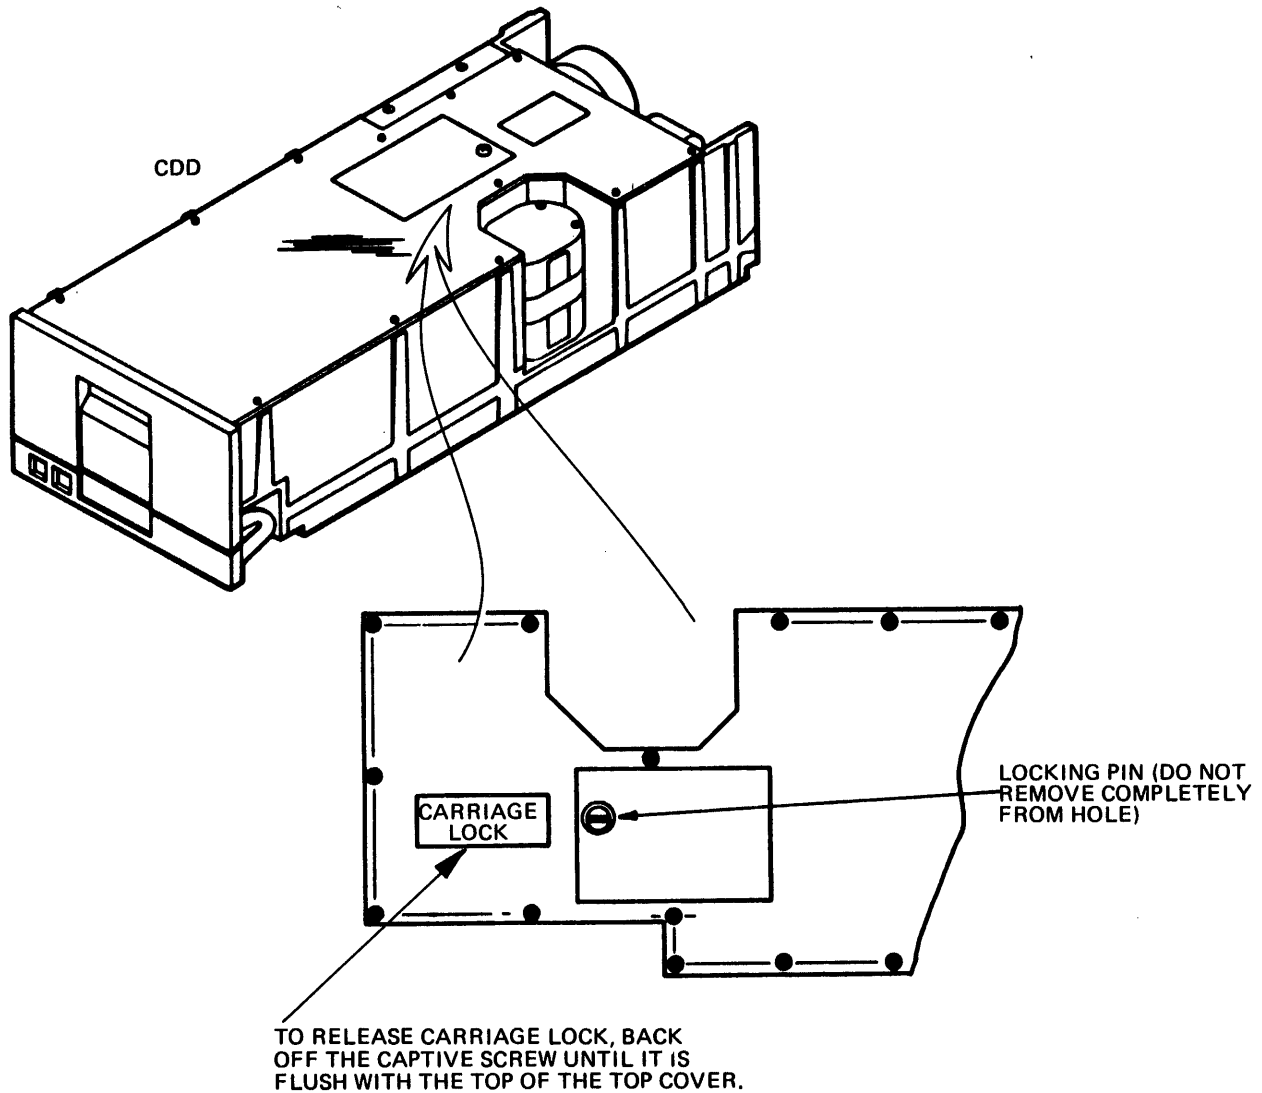

Figure H-7 Cartridge Lock Assembly
4. Unscrew the carriage locking pin (counterclockwise direction) until the head of the screw is flush with the top of the cover (see Figure H-7). Resistance to turning will be felt as the locking pin nears the correct position.
2. THE CARRIAGE IS TO BE LOCKED DURING SHIPPING USING THE CARRIAGE LOCKING PIN (FIGURE H-7). THIS PREVENTS DAMAGE TO THE DRIVE AS A RESULT OF THE HEADS LOADING.